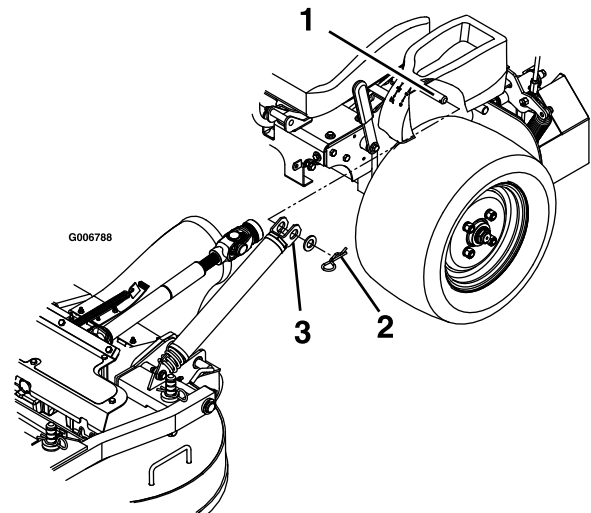

Figure 69
3. Remove hairpins and washers at the top of the deck lift assist spring on each side of the unit (Figure 69).
8. Install the springs onto the spring-anchor pins under the left and right consoles and secure them with a washer and hairpin (Figure 69).